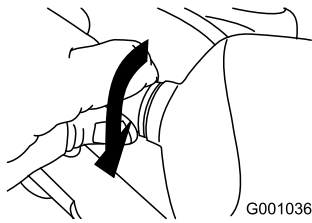

Figure 65
5. Turn the base of the bulb clockwise until it is snug (Figure 65).